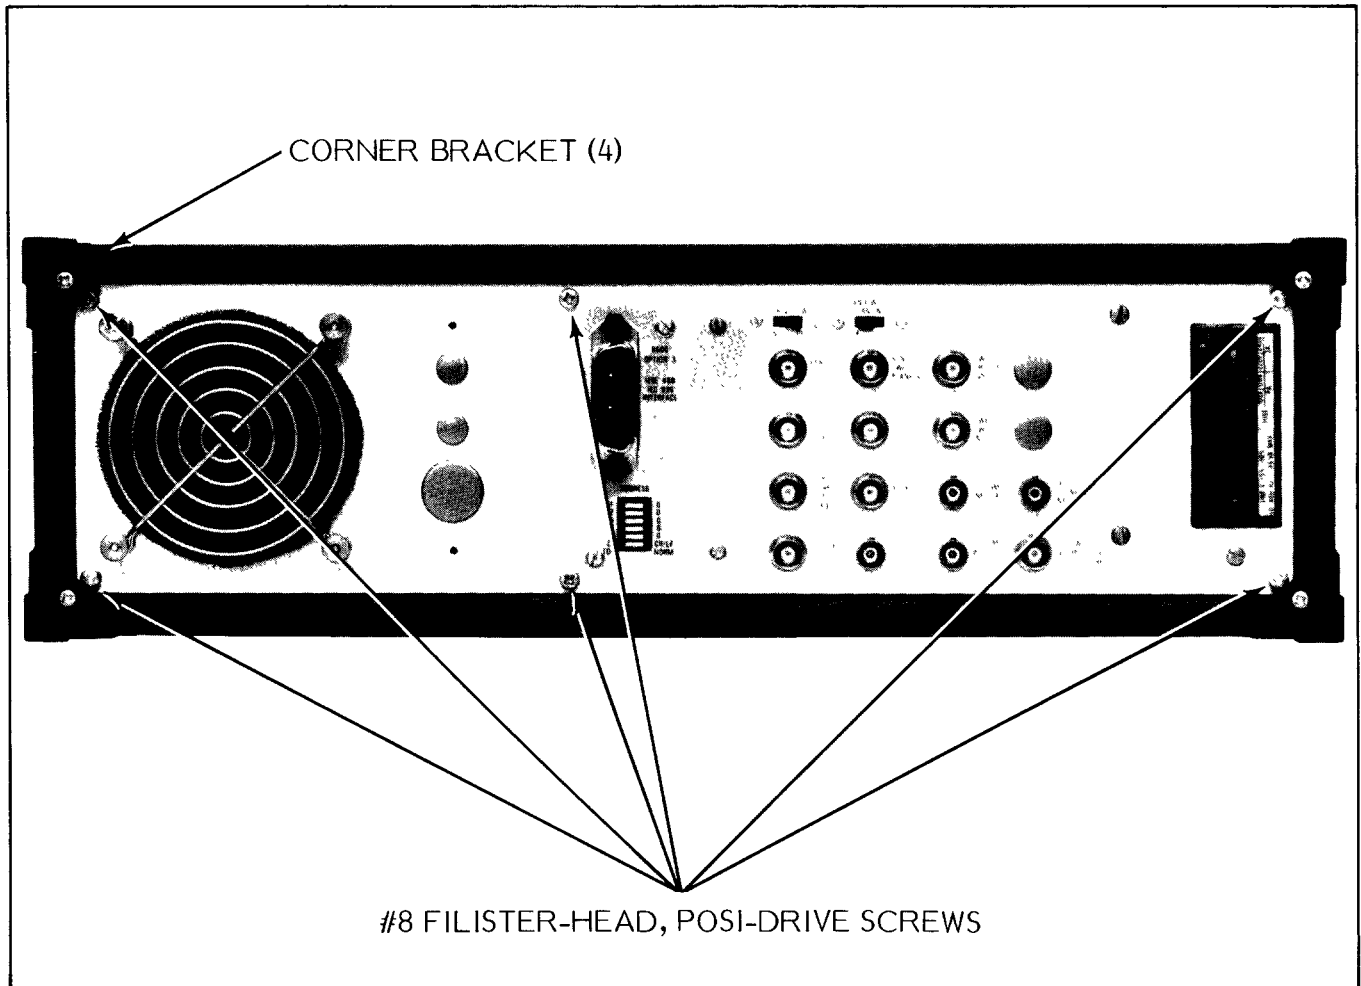

Figure 7-1. 6600 Series Programmable Sweep Generator, Rear Panel
- (a) Remove the four corner brackets from the rear panel (Figure 7-1).
- (a) Remove the 4 corner-brackets from the rear panel of the sweep generator, Figure 7-1.
4. Remove the six #8 fillister-head, posi-drive screws from the rear panel (Figure 7-1).
- (a) Remove the two top, corner brackets from the rear panel of the sweep generator (Figure 7-1).